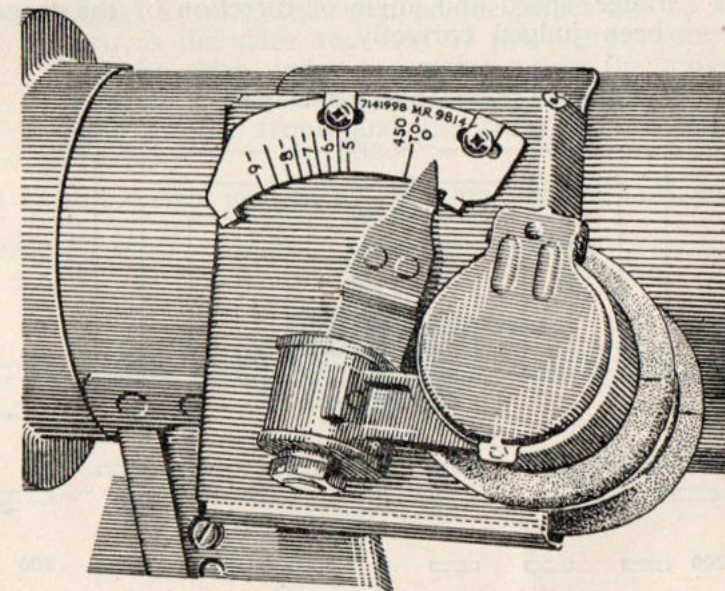

Fig 1.—The sight (ladder pattern)
2. One or more launchers, six-foot table for each launcher, sandbags or some other type of rest, aim diagrams and tank silhouette targets as follows (see Figs 1 to 8):—
#### Sightsetting (see Fig 1)